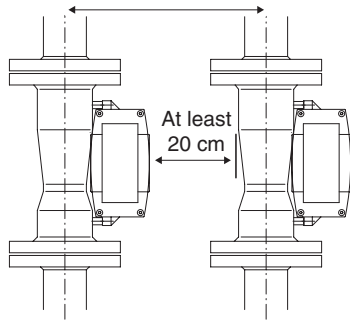
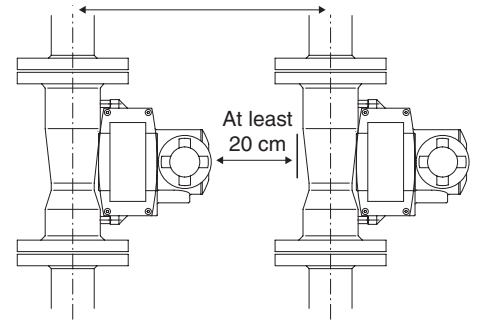

Fig. 21
Fig. 23
- When installing two or more flowmeters, place them at least the distances shown in Fig. 21 to Fig. 23 apart from each other to avoid mutual interference.